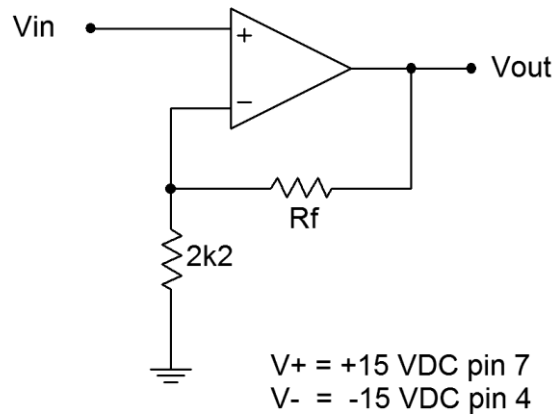

Figure 1
1. Calculate the voltage gains for the amplifier of Figure 1 for the R_f values specified, and record them in Table 1.
3. Assemble the circuit of Figure 1 using the $22k\Omega$ resistor and the slowest op amp.